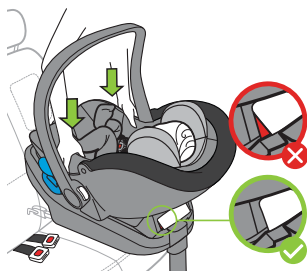

Figure 50
- Lower Carrier onto the Base and push down on each side of the Carrier to connect it to the Base as shown in **Figure 50**. The red area on the side of the Release Handle will completely disappear when the Carrier is securely attached. If the red area is visible, the Carrier is NOT properly secured.